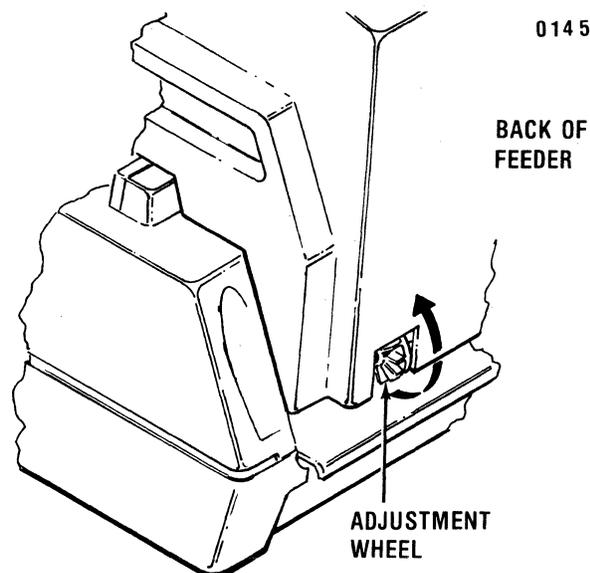

Figure 3-4 Horizontal Adjustment; Adjustment Wheel
Look at the back of your feeder to determine if it has an adjustment wheel, like that shown in Figure 3-4. If the wheel is present, perform steps 1 and 2 below. If your feeder does not have the wheel, skip to steps 3 through 7 below.
1. Turn the adjustment wheel UP (see Figure 3-4) to move the feeder closer to the LEFT (form lever) side of the printer; turn the wheel DOWN to move the printer toward the RIGHT (control panel) side of the printer.